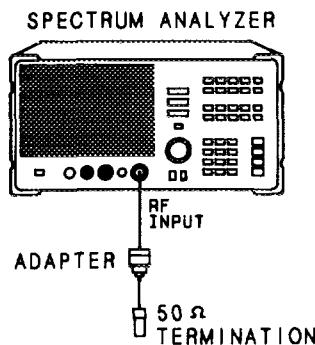

Figure 3-3. Displayed Average Noise Test Setup
4. Connect the HP 909D 50Ω termination to the HP 8562A/B RF INPUT 50Ω as shown in Figure 3-3.